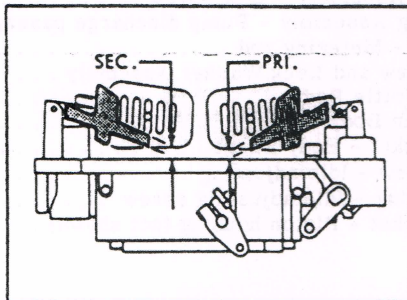

Figure 1
IV. FLOAT LEVEL ADJUSTMENT. (See Figure 1.)
- Hold air horn upside down with floats in place and gasket removed. Measure float heights at both locations shown in figure 1.